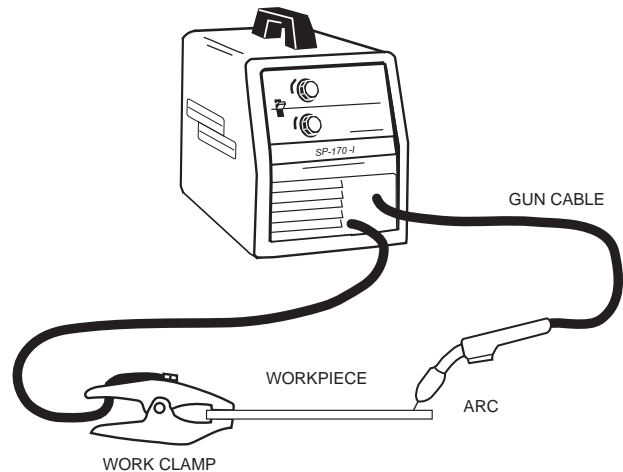

FIGURE B.7
6. Refer to Figure B.7. Connect work clamp to metal to be welded. Work clamp must make good electrical contact to the workpiece. The workpiece must also be grounded as stated in "Arc Welding Safety Precautions" in the beginning of this manual.